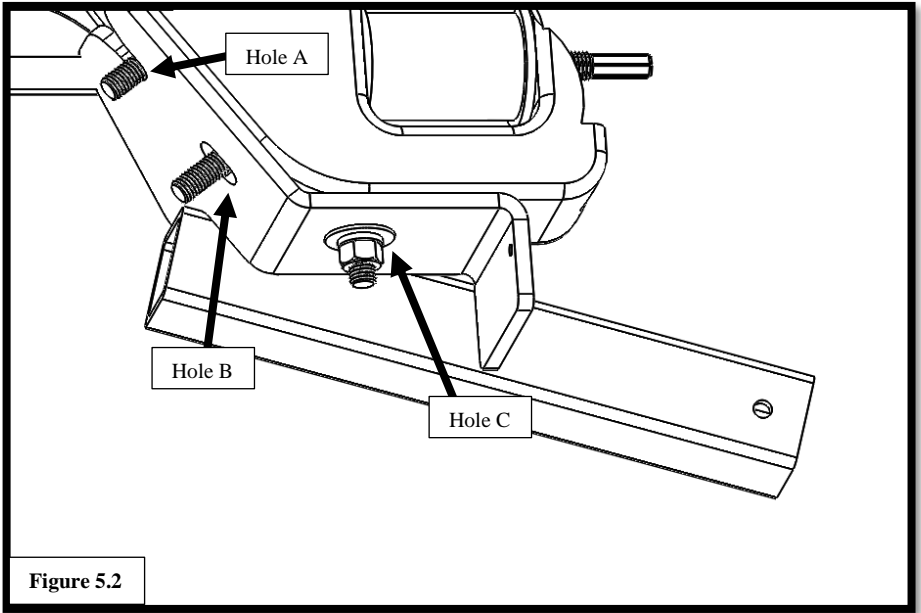

Figure 5.2
- Gently pull on the ends of each bolt fisher until the bolts protrude from the upper two hole in the **Driver Side Receiver** as shown in Figure 5.2.